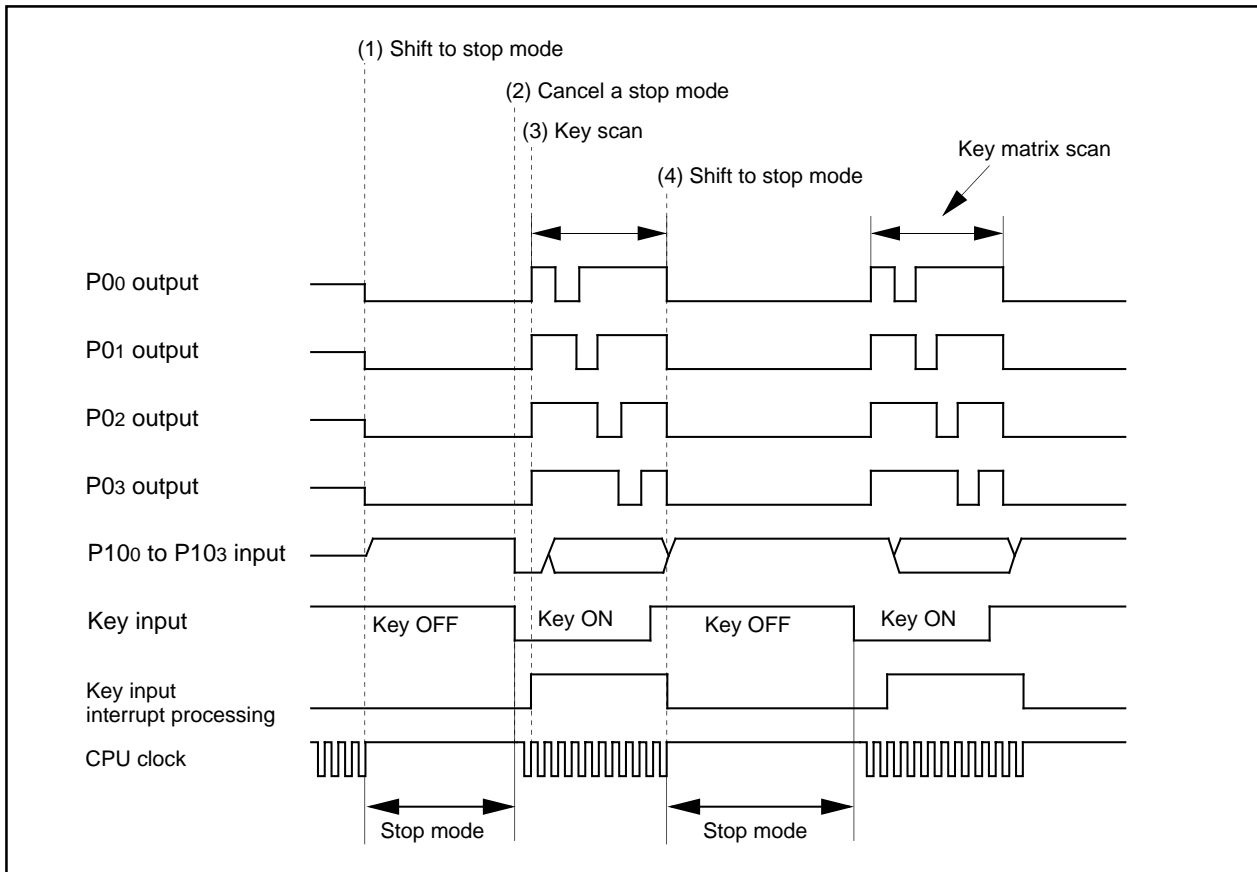
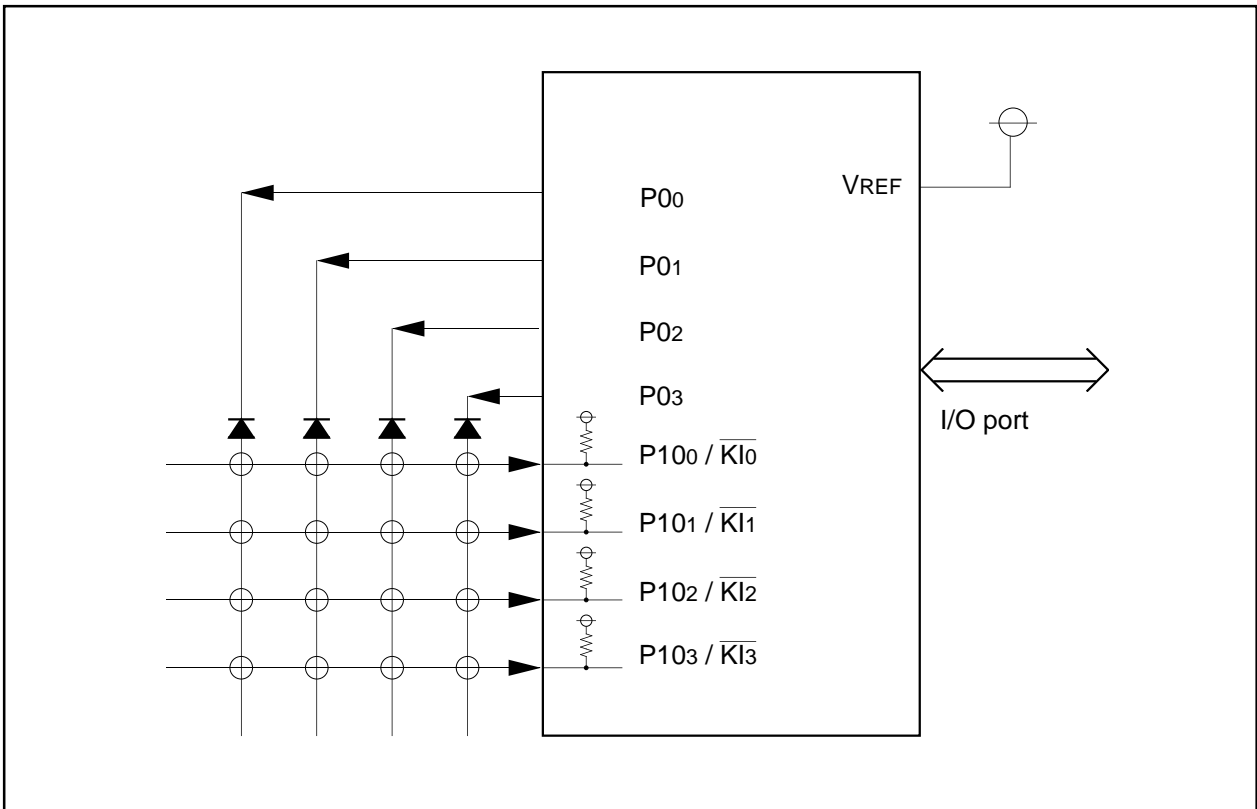
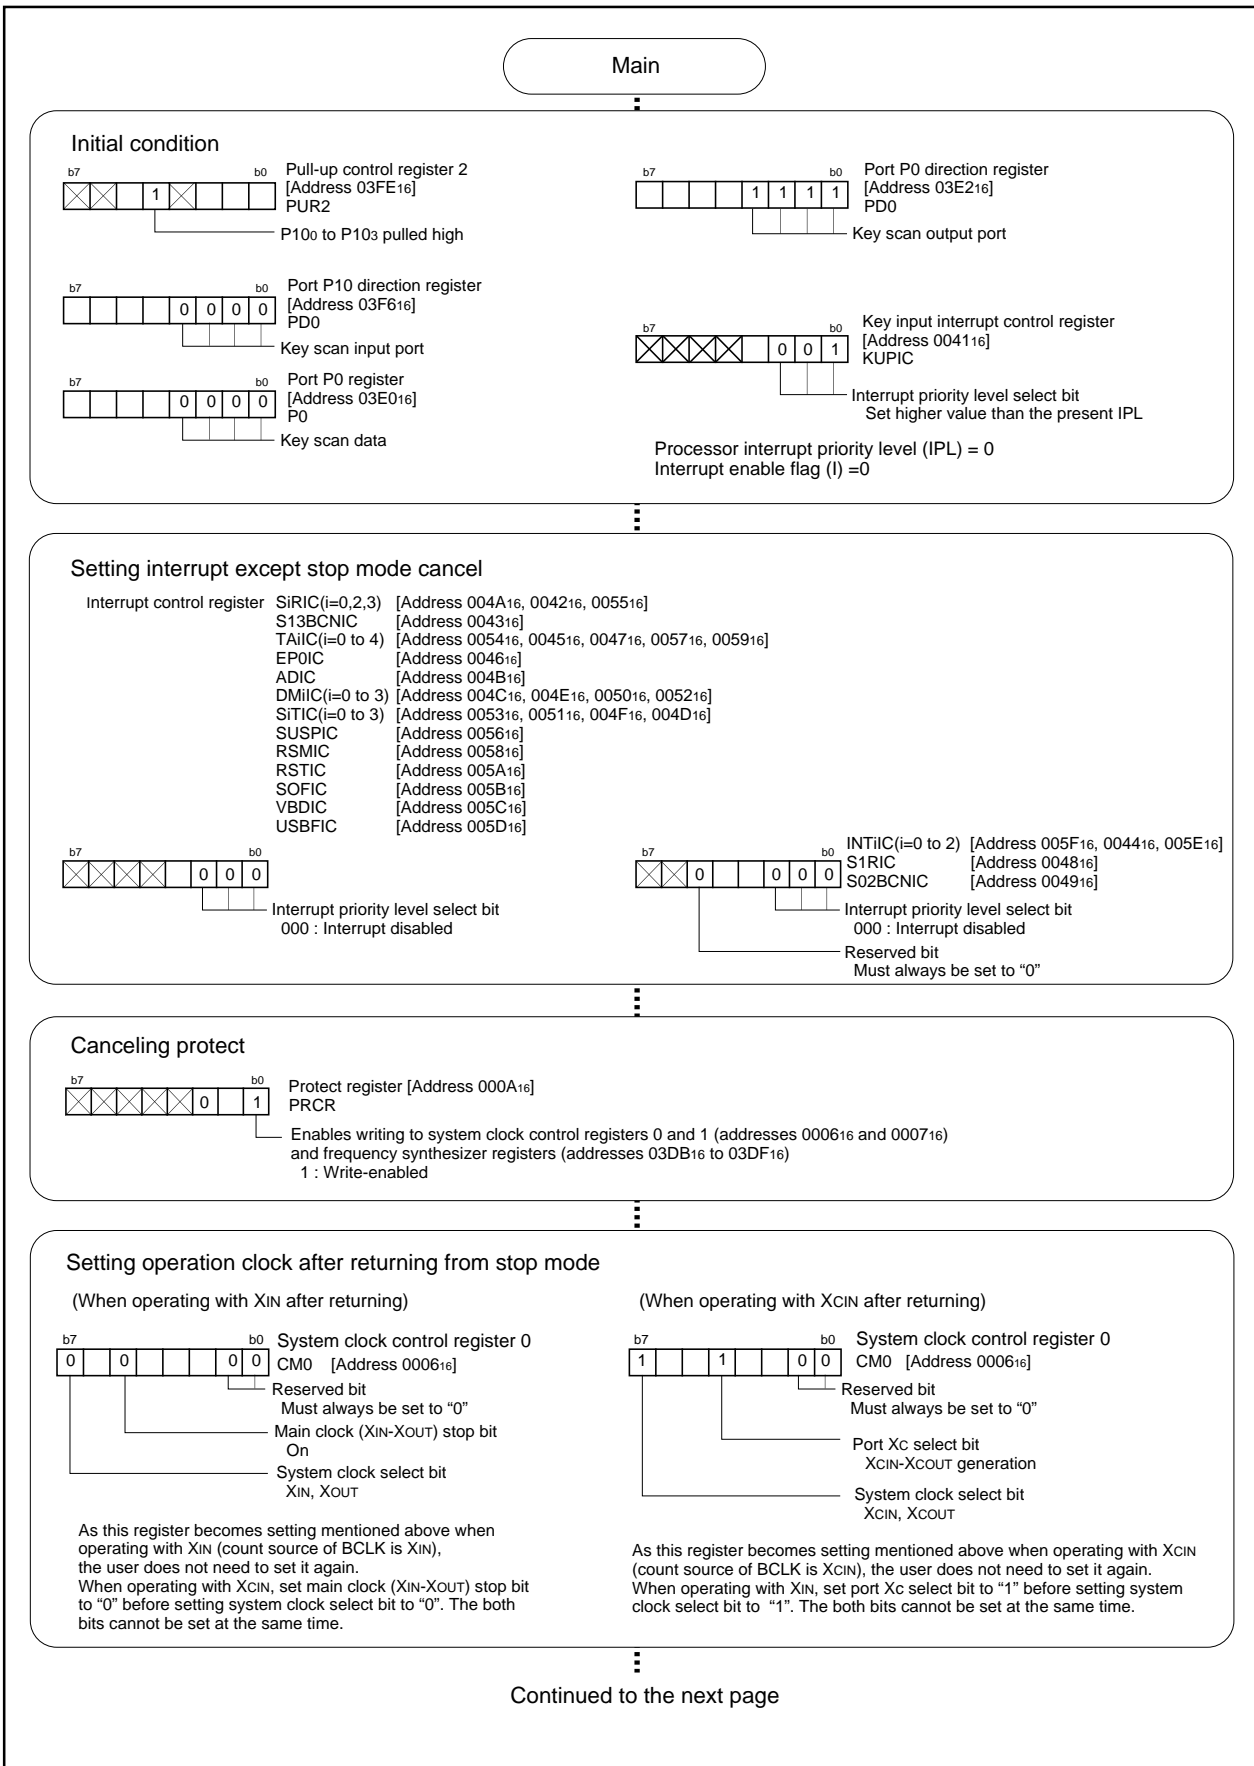

Figure 3.9.1. Operation timing of controlling power using stop mode
Figure 3.9.2. Example of circuit of controlling power using stop mode
Figure 3.9.3. Set-up procedure of controlling power using stop mode (1)
**Overview** The following are steps for controlling power using stop mode. Figure 3.9.1 shows the operation timing, Figure 3.9.2 shows an example of circuit, and Figures 3.9.3 and 3.9.4 show the set-up procedure.